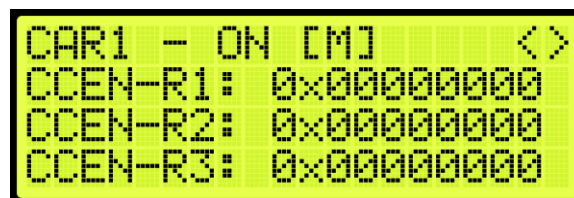

Figure 277: Rear Car Call Enable Bitmap Status Menu
16. From the Rear Car Call Enable Bitmap Status (See Figure 277), press the right button.